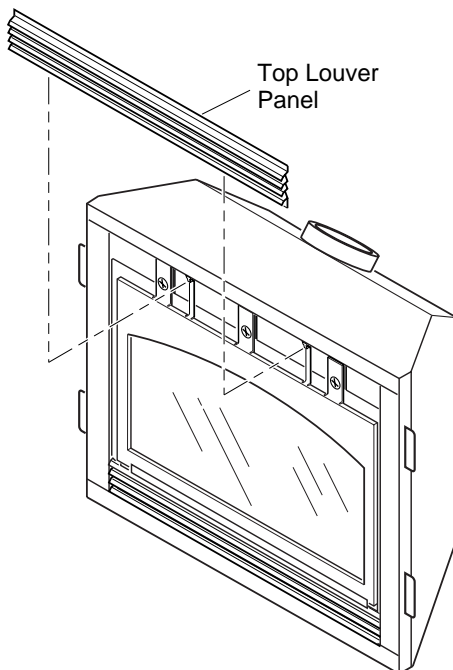

Figure 43 - Removing Top Louver Panel
1. Remove the upper louver panel by lifting upward and out (see Figure 43).